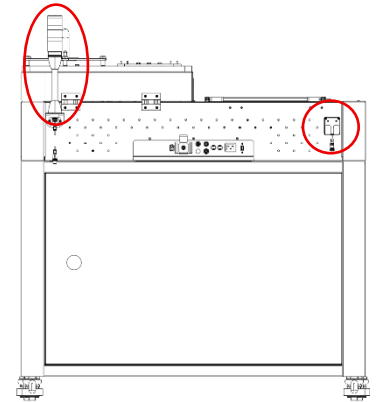

Figure 10 Light Tree and Temp/Humidity Sensor
2. Install the light tree and temperature humidity sensor bracket onto the back of the machine (Figure 10) and plug both connectors in. The ports are labeled and only mate with the correct component.